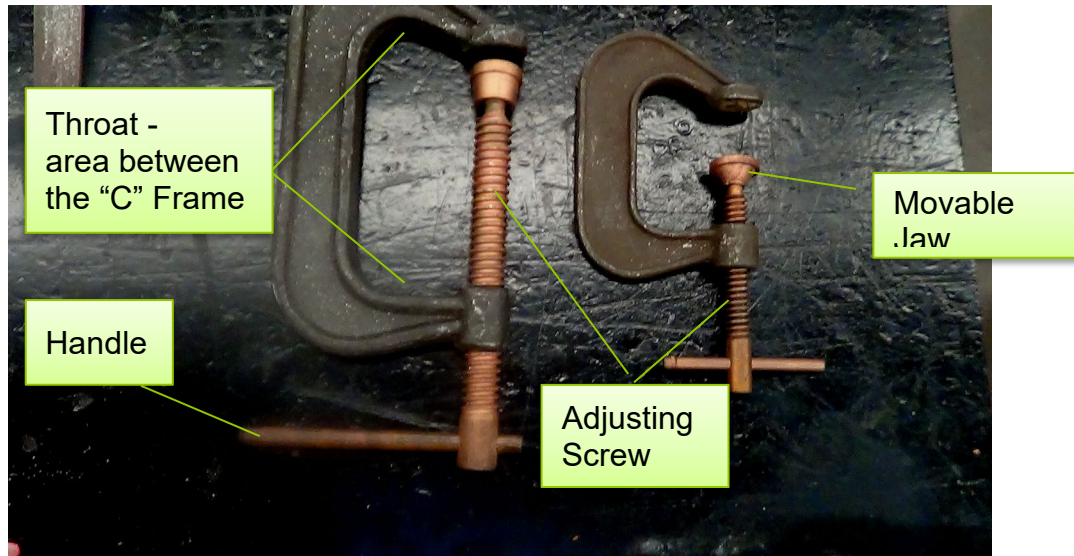

Figure 7: Standard C-Clamps (Image provided by Ladell Humphries, 2013)
**C-Clamps** are used to hold work pieces together or even aid in the machining of parts. Heavy duty C-clamps are used by machinists specifically to hold steel plates together for drilling and further machining operations. Parallel clamps are used to hold delicate work. They don't have the same clamping power as c-clamps. Precision measuring set-ups can be held in place with parallel clamps. The size of the clamp is determined by the largest opening of its jaws (**Figure 7**).